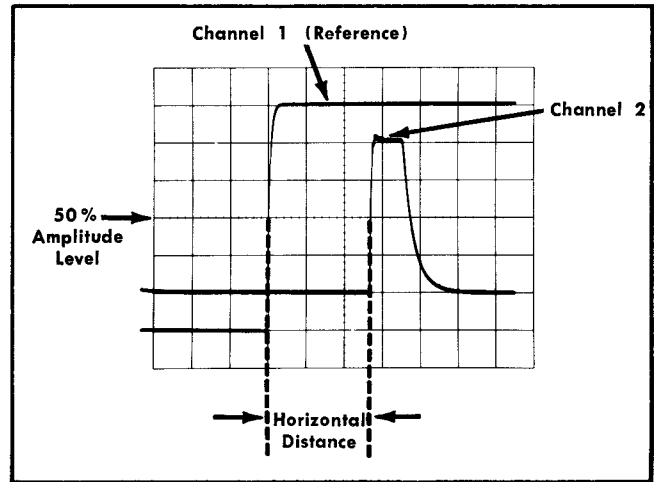

Fig. 2-3. Measuring time delay between pulses.
10. Measure the exact horizontal distance between the reference waveform and the Channel 2 waveform (see Fig. 2-3).
For example, assume that the time/division switch is set to 5 microseconds, the $5\times$ magnifier is on and the horizontal distance between waveforms is 2.7 divisions (see Fig. 2-3).